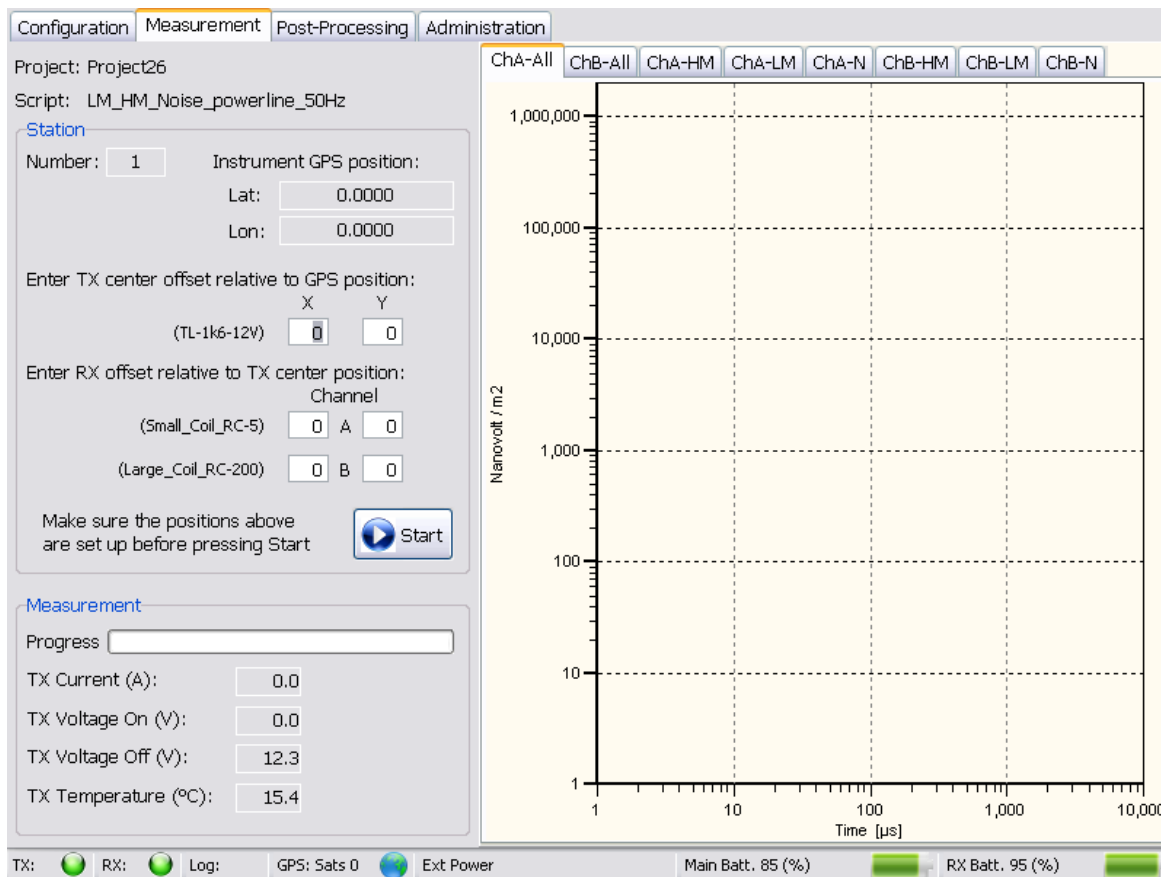

Figure 27. Measurement page
4. As a sub-set in the Station panel, it is possible to enter position coordinates of the transmitter loop in relation to the instrument. It is also possible to enter offset position values for the receiver coils in relation to the transmitter loop, see figure 27. This is done if the receiver loop(s) is not centered in the transmitter loop, otherwise these fields can be left with the value 0. All entered values will be stored together with the measuring file.